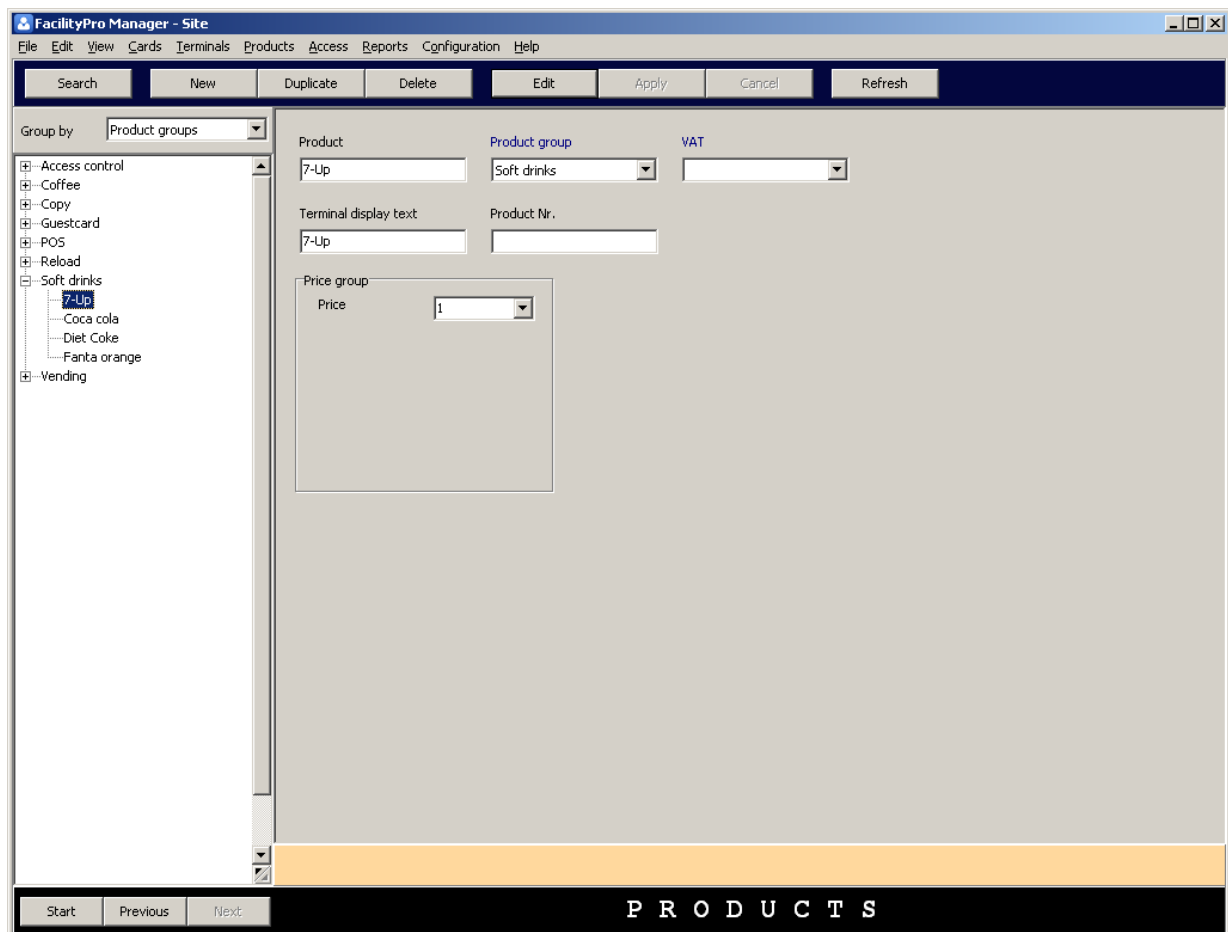

Figure 5-5 The products data screen
2. Choose **Products**. You will see the products data screen (Figure 5-5).